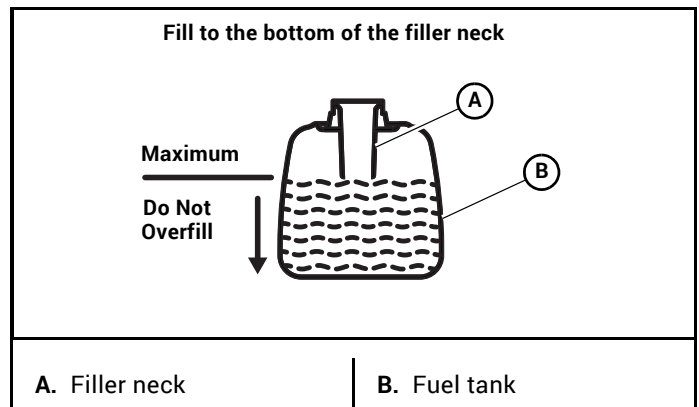

Figure 4-8
**IMPORTANT:** Do not overfill the fuel tanks. The fuel tanks should be filled **no higher than the bottom of the fill neck.** (Figure 4-8) The fuel system is designed to leave room for the fuel to expand with fuel temperature changes.